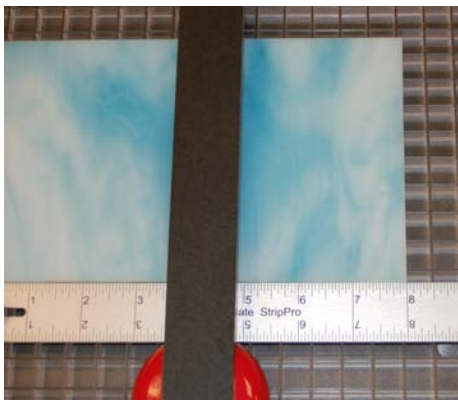

figure 1
1. Place the glass on the ruler. Any number can be your point of origin. Let's use the **number 5** on the ruler as our point of origin. If we slide the glass right to the **number 8** and make a score, we will have a **3 INCH STRIP**. (figure 1)